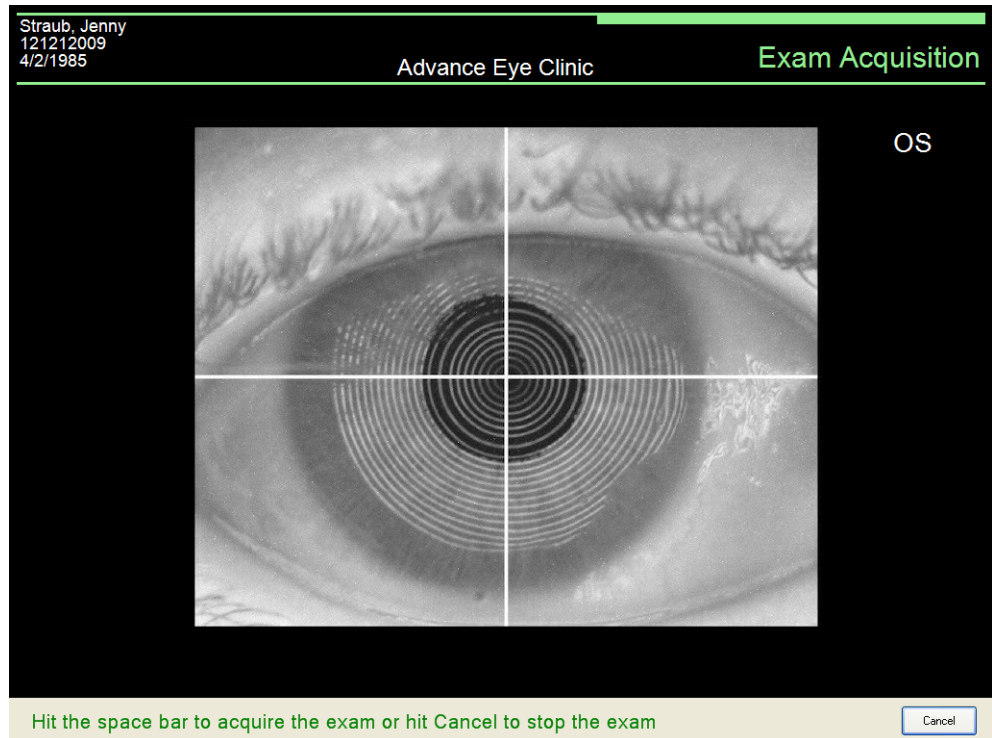

Figure 3-6 Exam Acquisition Screen – Good Focus and Alignment
After you select a Parameter Set, the EXAM ACQUISITION SCREEN is displayed (Figure 3-6).
5. Move the joystick forward and back to focus. The intent is to achieve the clearest image of *all* the rings. See Figure 3-6 for an example of good focus and alignment. If you want to cancel out of image acquisition, press the **Cancel** button.